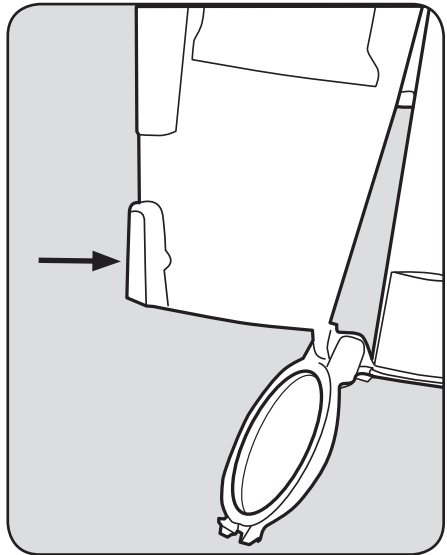

Fig. 12
3. While holding the vacuum over a trash can, push the release button at the bottom of the dust cup. The base of the dust cup will drop down, releasing the dirt. (Fig. 12)